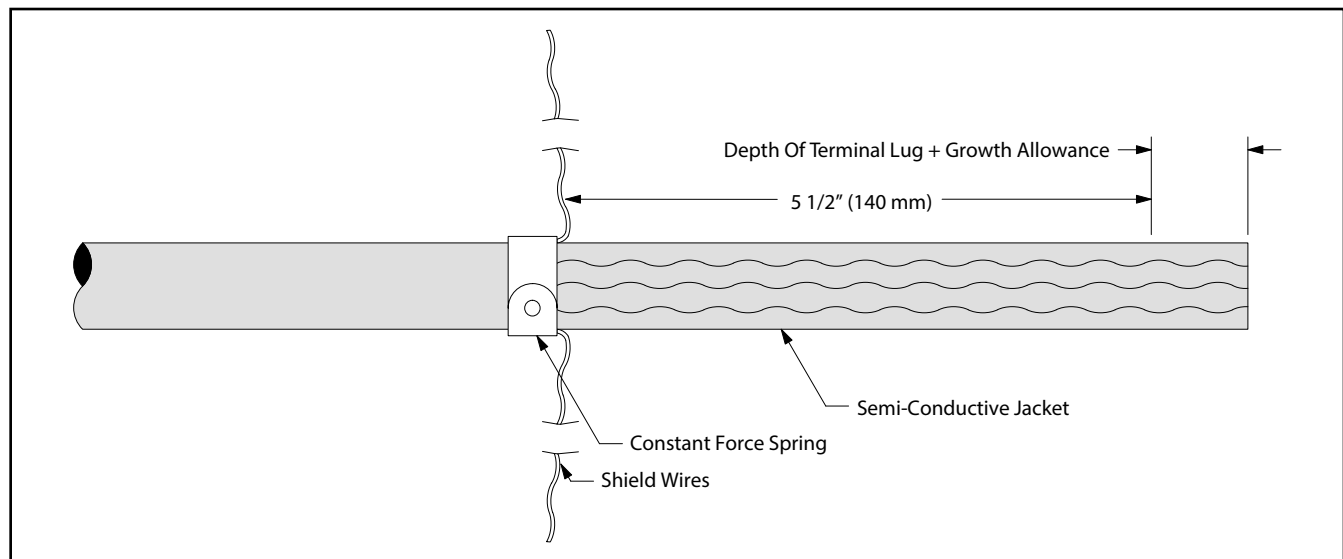

Figure 16
12.2 Prepare cable using dimensions shown in Figures 16, 17 and 18. **BE SURE TO ALLOW FOR DEPTH OF TERMINAL LUG.**
12.3 Install constant force spring as shown in Figure 16. Pull shield wires through semi-conductive jacket to leading edge of constant force spring (Figure 16).